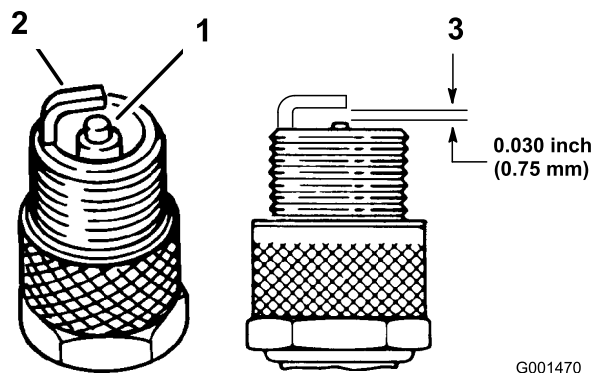

Figure 41
- Look at the center of the spark plugs (Figure 41). If you see light brown or gray on the insulator, the engine is operating properly. A black coating on the insulator usually means that the air cleaner is dirty.
- Check the gap between the center and side electrodes (Figure 41). Bend the side electrode (Figure 41) if the gap is not correct.
3. Connect the wires to the spark plugs (Figure 41).